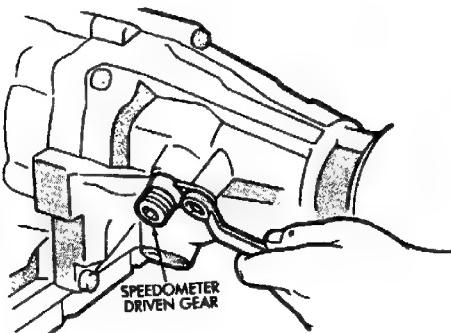

Fig. 67 Installing Speedometer Driven Gear
(91) Install speedometer driven gear (Fig. 67). Tighten gear attaching bolt to 19 N·m (175 in-lbs) torque.